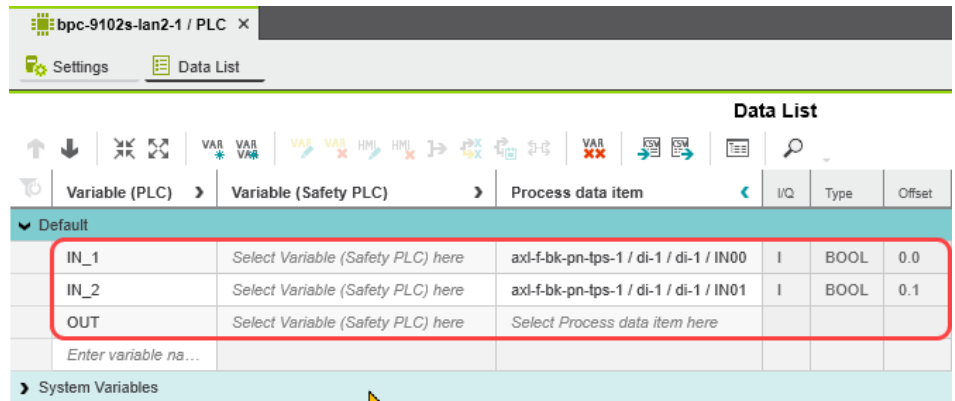

Figure 6-30 Variables: Process data assigned
- In the “Process data item” column, use the role picker to assign the corresponding process data to all variables (see marking in section Figure 6-30).